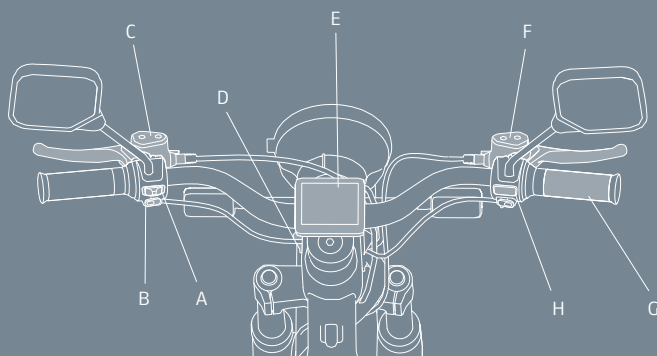

Fig. 6
- To accelerate, use the right-hand throttle, see Fig. 6.